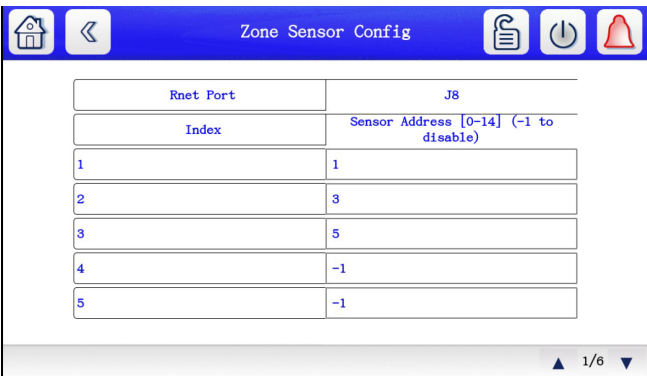

Fig. 19 — Zone Sensor Configuration Screen
- 6. From the Controller Config screen, press the Zone Sensor Config icon (🔌) to go to the Zone Sensor Config screen. Note: the Zone Sensor Config icon is on the second page of the Controller Config screen. Press the down arrow on the bottom right of the screen to get to the second page. See Fig. 19 for Zone Sensor Config screen layout.
- 8. Set the addresses for sensor index 1-5. Setting the address to -1 disables the sensor index. See Table 12 for Zone Sensor configuration parameters. In Fig. 19, sensor 1 is enabled and set to address 1, sensor 2 is enabled and set to address 3, and sensor 3 is enabled and set to address 5. Sensors 4 and 5 are disabled.